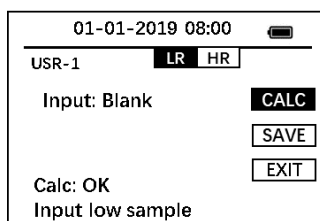

Figure 11.
8. With **CALC** highlighted, press the **OK** key (Figure 11).